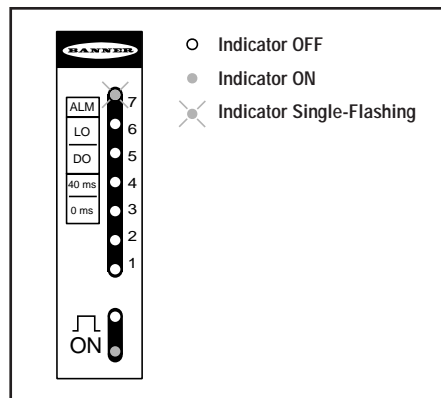

Figure 6. LED #7 flashes when a marginal sensing condition develops.
**Display:** LED #7 flashes and green ON indicator is ON steadily. (Figure 6.)